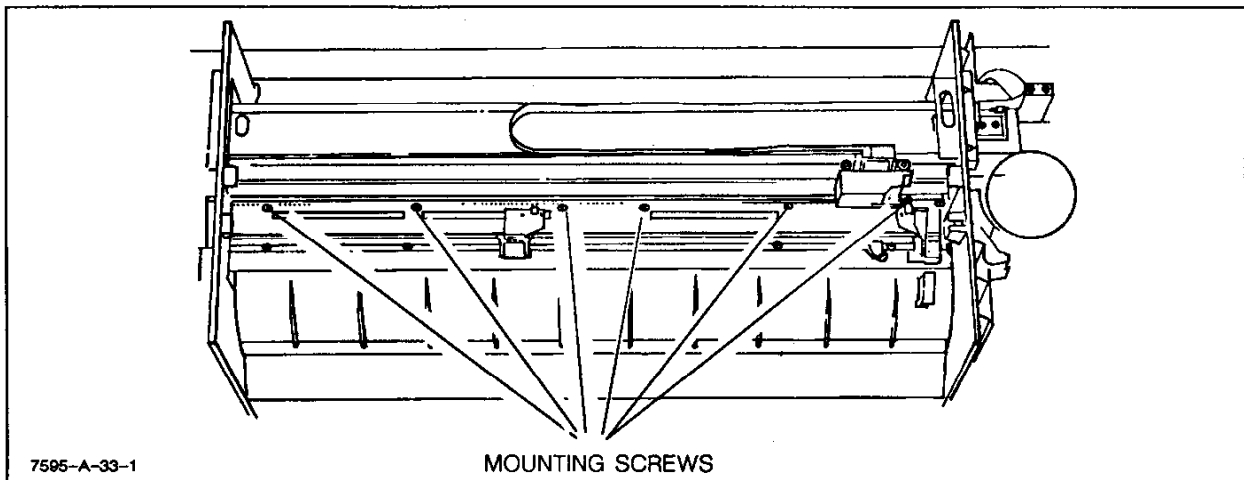

Figure 6-35. Center Platen Removal
- l. Remove the six screws (Torx #8) that secure the center platen and carefully remove the platen. See Figure 6-35.